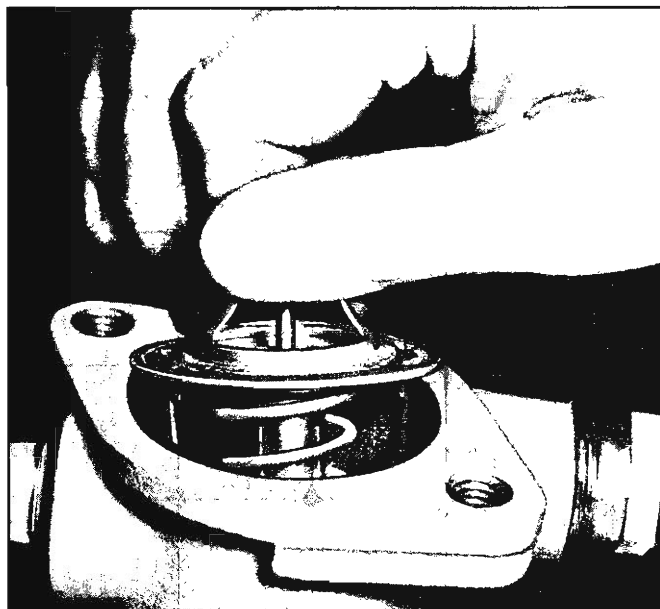

Fig. 4—Replacing Thermostat
2. Remove thermostat housing bolts and remove water outlet and gasket from thermostat housing (fig. 4).